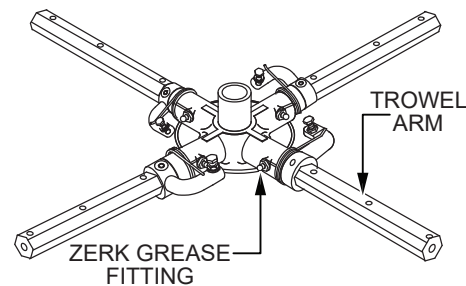

Figure 51. Trowel Arm Removal
1. Each trowel arm is held in place at the spider plate by a Zerk grease fitting (hex head bolt). Remove the Zerk grease fitting from the spider plate (Figure 51).
2. Remove the trowel arm from the spider plate (Figure 51).